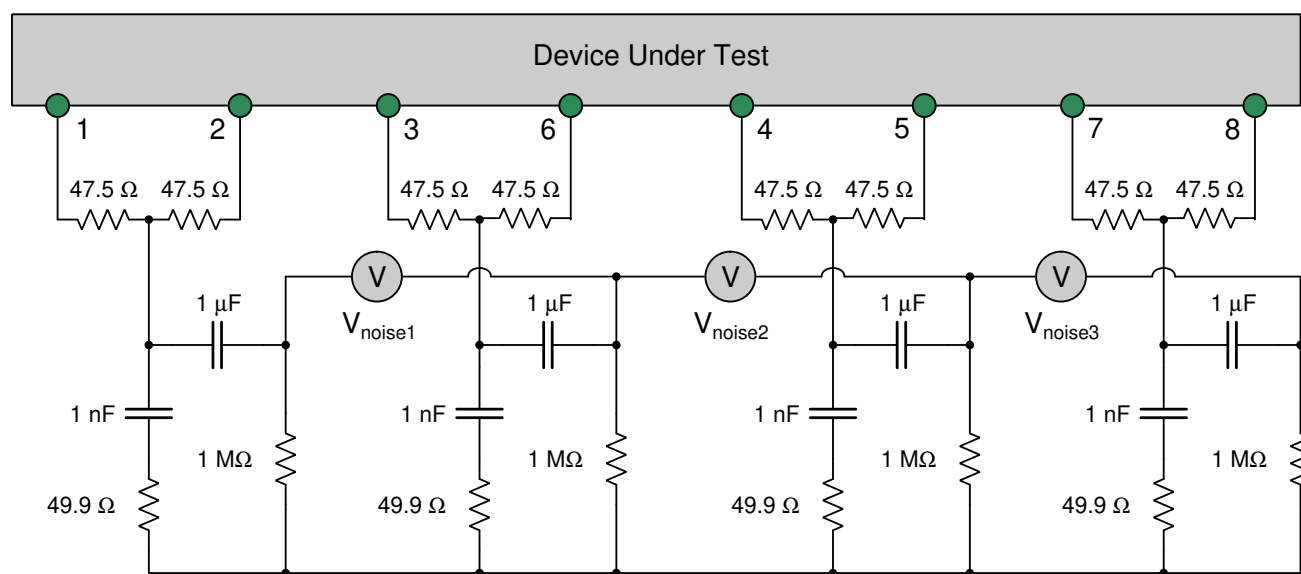

Figure 9: Pair-to-pair voltage noise measurement circuit
Version 1.1 Added a high pass filter to the measurement circuit in Figure 9 to make the test insensitive to PD load changes, as well as fixed the PI pin numbering.
- Connect the measurement circuit shown in Figure 9 to the PI of the PSE (in parallel to the connection to the SSPD model). The impedance of the voltage meters must be such that the detection signature of the SSPD model remains valid when this is called for.
3. Measure the voltage peak amplitude at V_{noise1} , V_{noise2} , and V_{noise3} (see Figure 9) with the measurement set to a bandlimited sampling of 2 kHz over the following frequency bands: